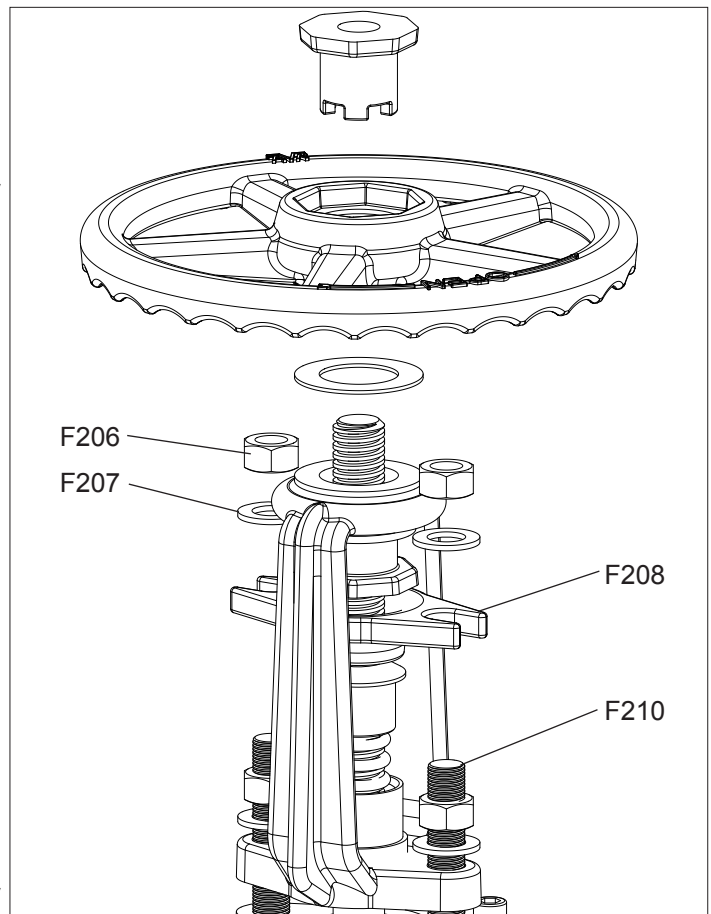

Fig. 7A
STEM SEAL O-RING REPLACEMENT (Figs.7A,7B)
1. Remove the two upper Gland Follower / Yoke Nuts (F206) and associated Washers (F207). Lift the Gland Follower (F208) up off of the Stud Bolts (F210). (See Fig. 7A)